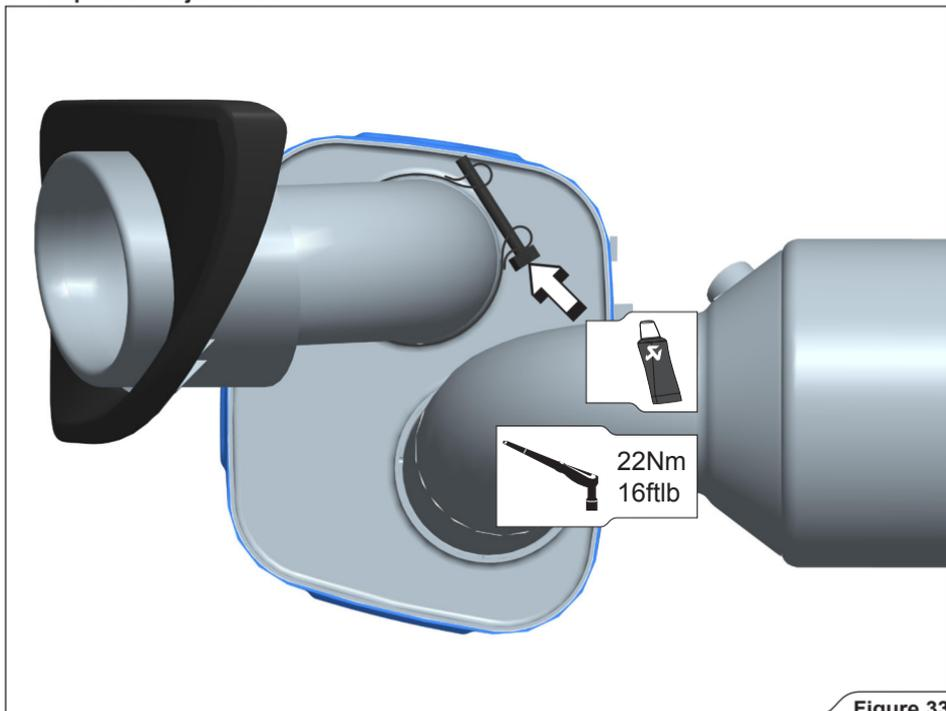

Figure 33
18. For Slip-On and Slip-On with optional Link Pipes: retighten the muffler outlets' clamps on both sides of the muffler to a specified torque (**Figure 33**).